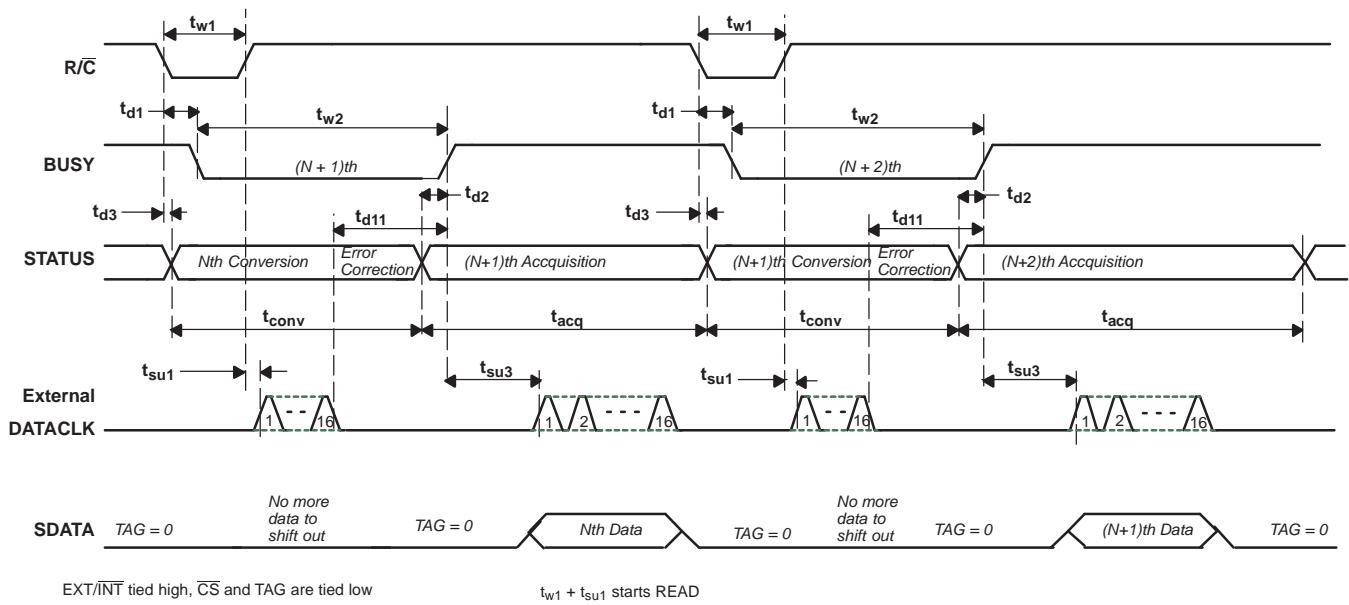
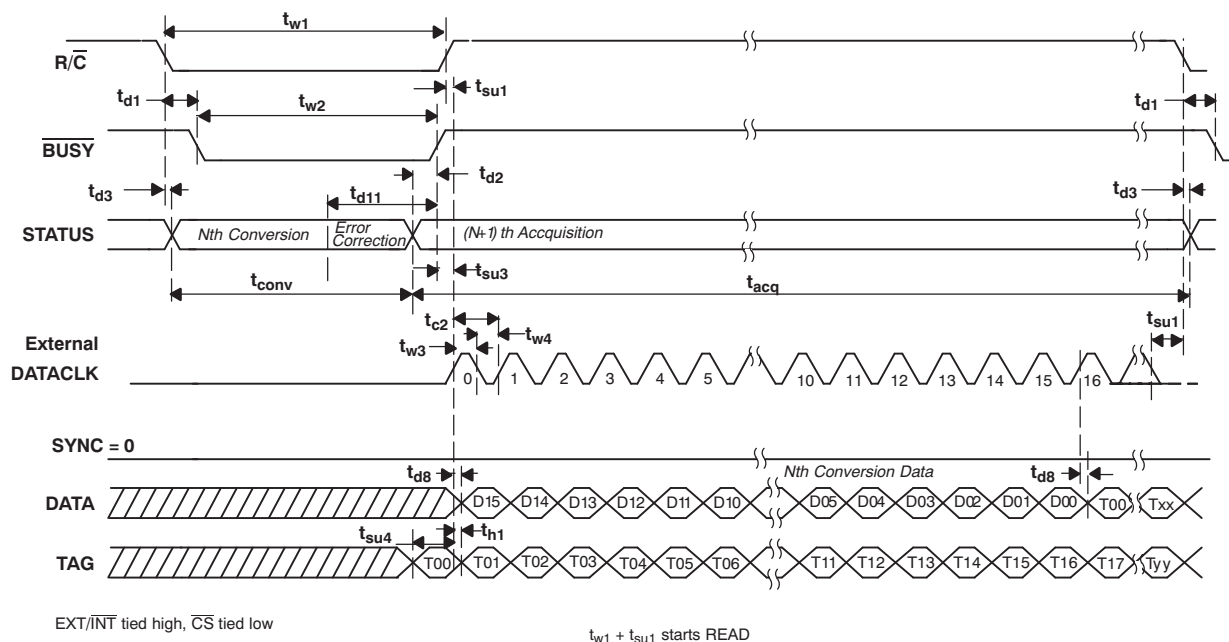
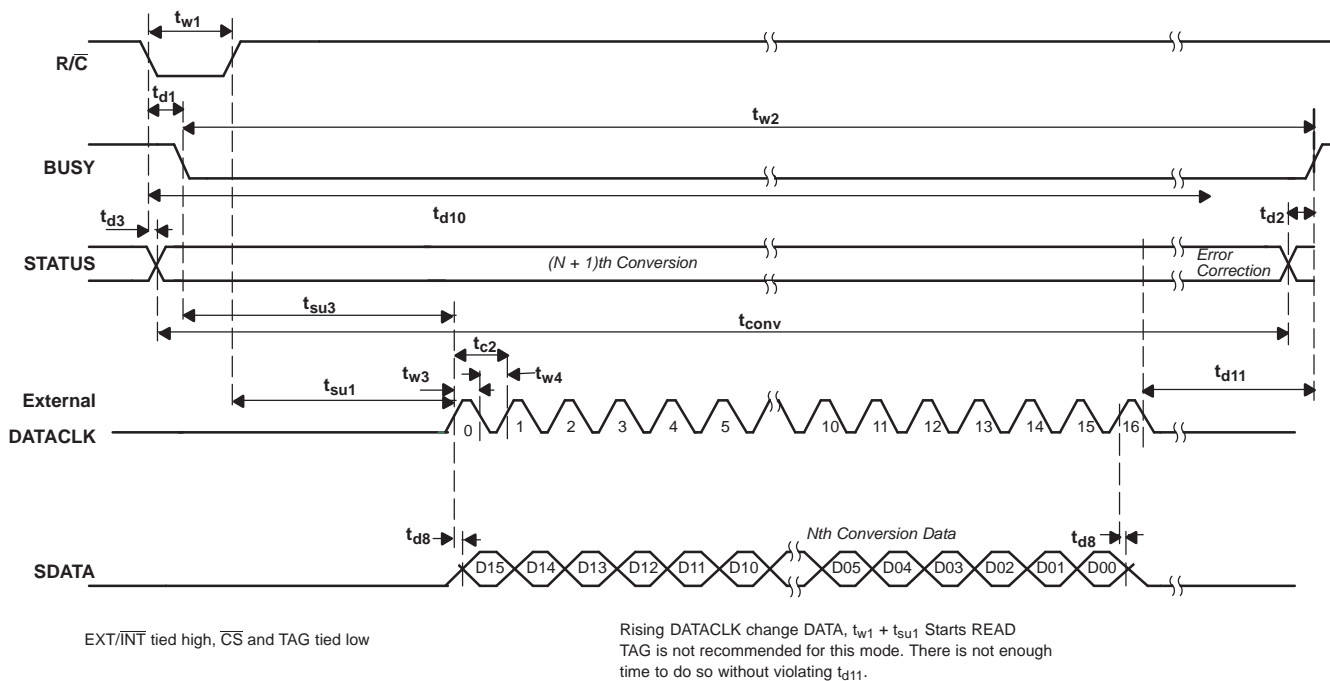

Figure 34. Basic Conversion Timing: External DATACLK
Figure 35. Read After Conversion (Discontinuous External DATACLK)
Figure 36. Read During Conversion (Discontinuous External DATACLK)
(1) See Figure 34, Figure 35, and Figure 36 for constraints on data valid from conversion *N*−1.
After conversion N is completed and the output registers have been updated, $\overline{\text{BUSY}}$ (pin 24) goes high. With $\overline{\text{CS}}$ low and $\text{R}/\overline{\text{C}}$ high, valid data from conversion N are output on SDATA (pin 19) synchronized to the external data clock input on DATACLK (pin 18). The MSB is valid on the first falling edge and the second rising edge of the external data clock. The LSB is valid on the 16th falling edge and 17th rising edge of the data clock. TAG (pin 20) inputs a bit of data for every external clock pulse. The first bit input on TAG is valid on SDATA on the 17th falling edge and the 18th rising edge of DATACLK ; the second input bit is valid on the 18th falling edge and the 19th rising edge, etc. With a continuous data clock, TAG data is output on SDATA until the internal output registers are updated with the results from the next conversion. Refer to Table 6 and Figure 35 for more information.
The switching noise of the asynchronous data clock can cause digital feedthrough, degrading converter performance. Refer to Table 6 and Figure 36 for more information.
A falling-edge-triggered transfer would initiate an SPI transfer after the falling edge of $\overline{\text{BUSY}}$, providing the host controller with the previous conversion results, while the current conversion cycle is underway. The timing for this type of interface is described in detail in Figure 36. Care must be taken to ensure the entire 16-bit conversion result is retrieved from the ADS8517 before $\overline{\text{BUSY}}$ returns high to avoid the potential corruption of the current conversion cycle.
A rising-edge-triggered transfer is the preferred method of obtaining the conversion results. This timing is depicted in Figure 35. This method of obtaining data ensures that SCLK is static during the conversion cycle and provides the host processor with current cycle conversion results.